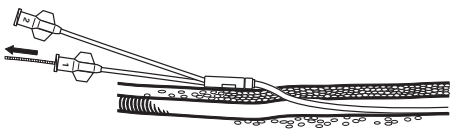

Fig. 2
9. After catheter is in position, remove wire guide. (**Fig. 2**) **Venous blood should be easily aspirated.** Winged hub can now be sutured into place. If catheter is not introduced to its full length, additional suture should be carefully placed around catheter and affixed to the skin at entry site if movable suture wing is not included. This will help prevent backward or forward catheter movement. Lumens should now be flushed with 5-10 cc normal saline prior to use or establishment of heparin lock.